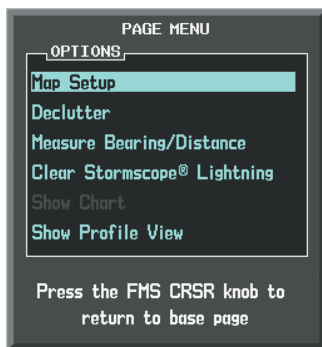

Figure 6-123 Navigation Map Page Menu
- 3) With Map Setup highlighted, press the **ENT** Key (Figure 6-123).